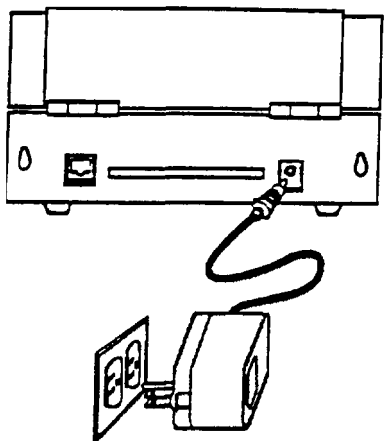

Figure 11. AC Connections
48. **BATTERY.** Operating the LS2000 with the AC adapter/charger connected to the unit, simultaneously charges the rechargeable battery pack. Whether the power switch is ON or OFF, the battery pack will continue to be charged by the adapter/charger (Figure 11).
- a. Insert the adapter/charger's barrel plug connector into the port located at rear of printer (Figure 11).